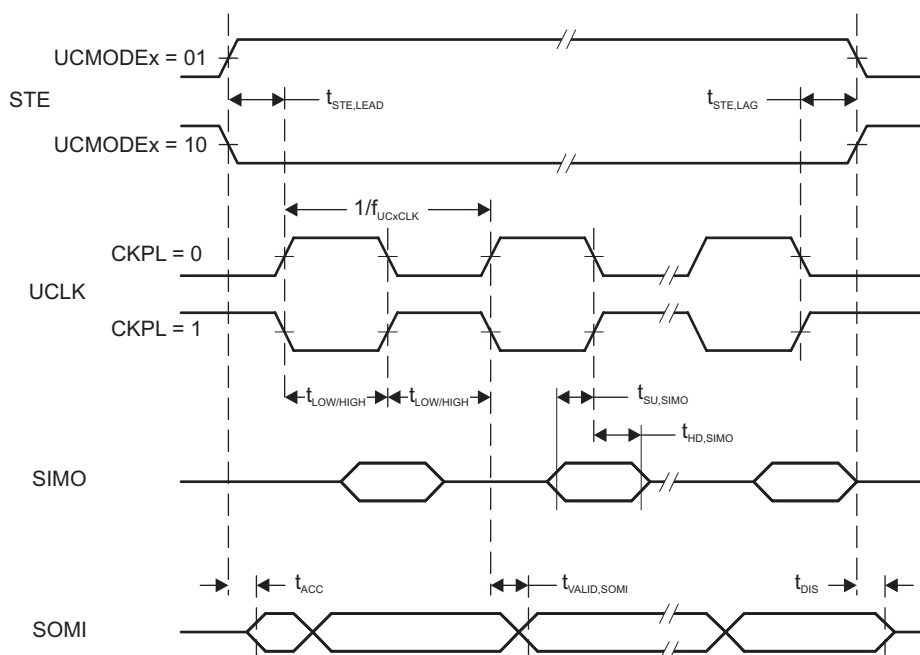
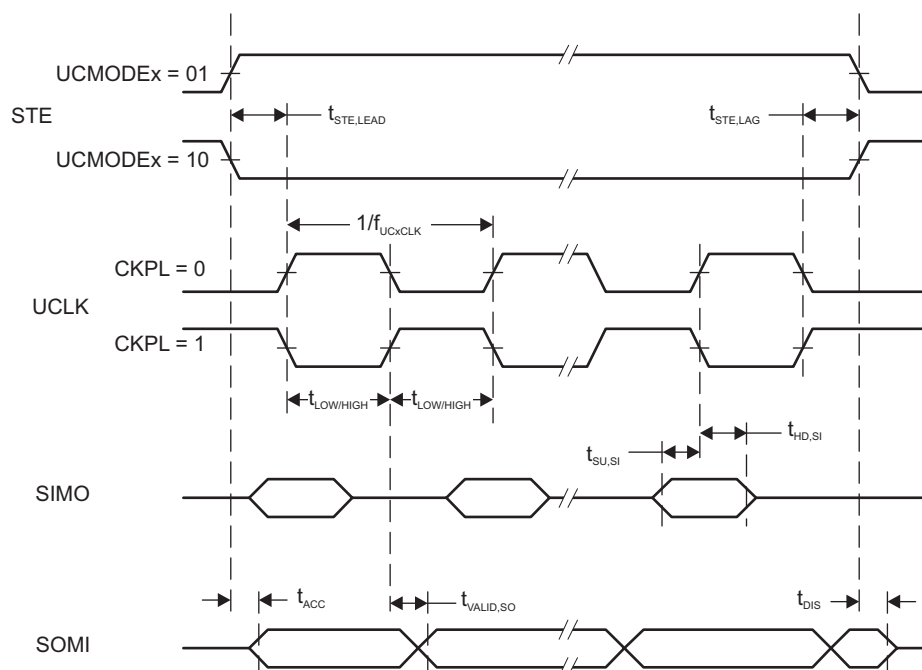

Figure 5-15. SPI Slave Mode, CKPH = 0
Figure 5-16. SPI Slave Mode, CKPH = 1
- (3) Specifies how long data on the SOMI output is valid after the output changing UCLK clock edge. Refer to the timing diagrams in Figure 5-15 and Figure 5-16.